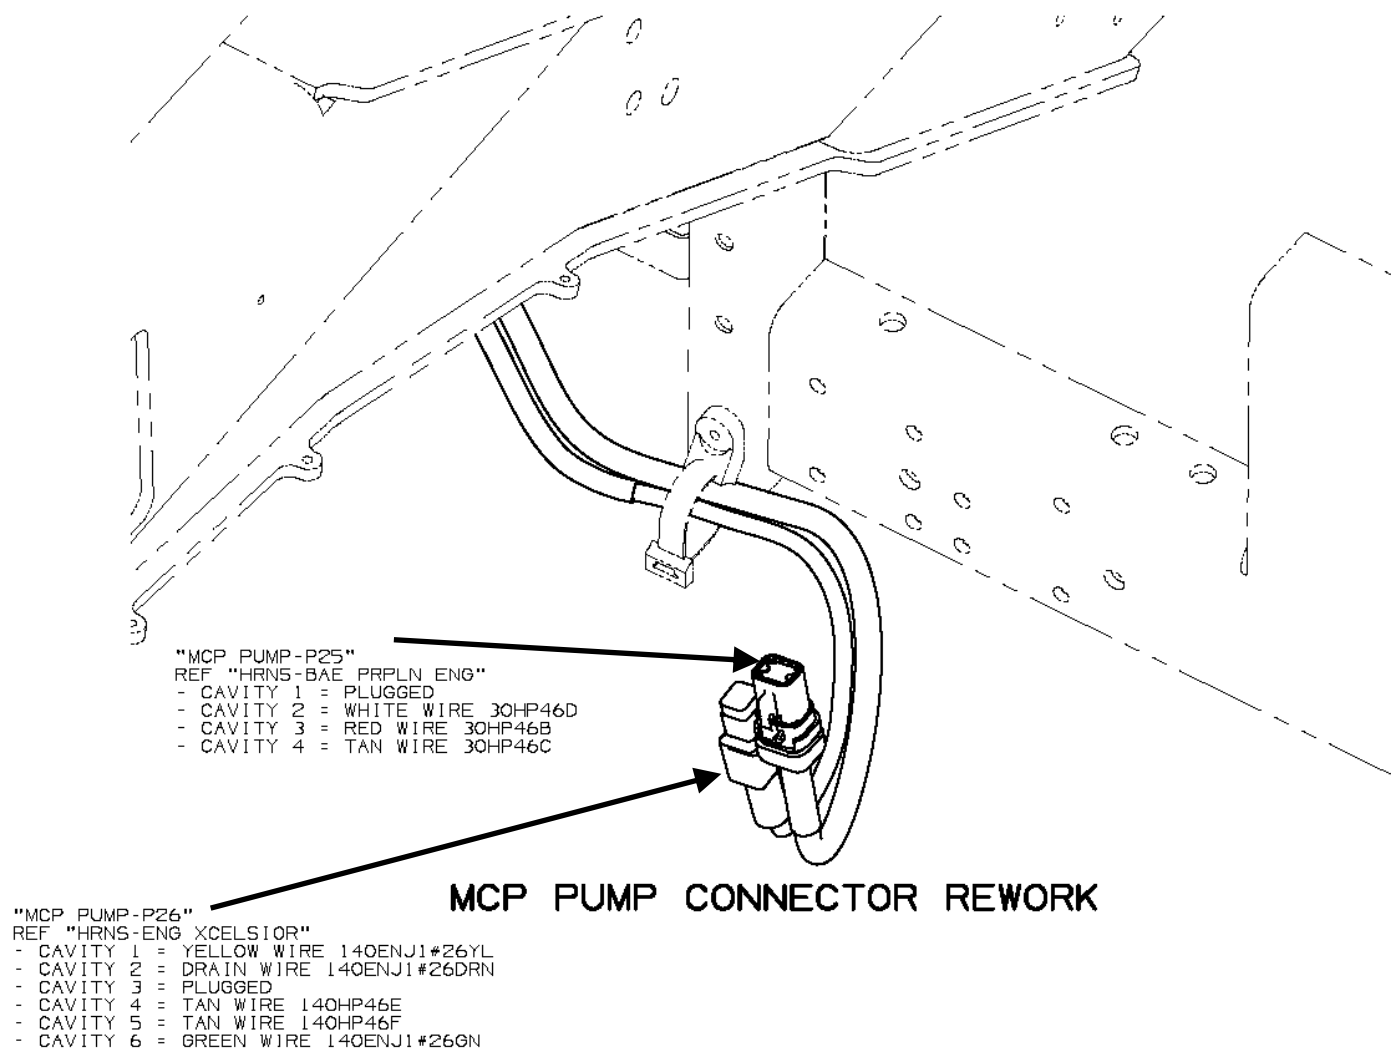

Figure 6: MCP Pump Connectors
14. Locate the existing connectors on the MCP coolant pump. See Figure 6.